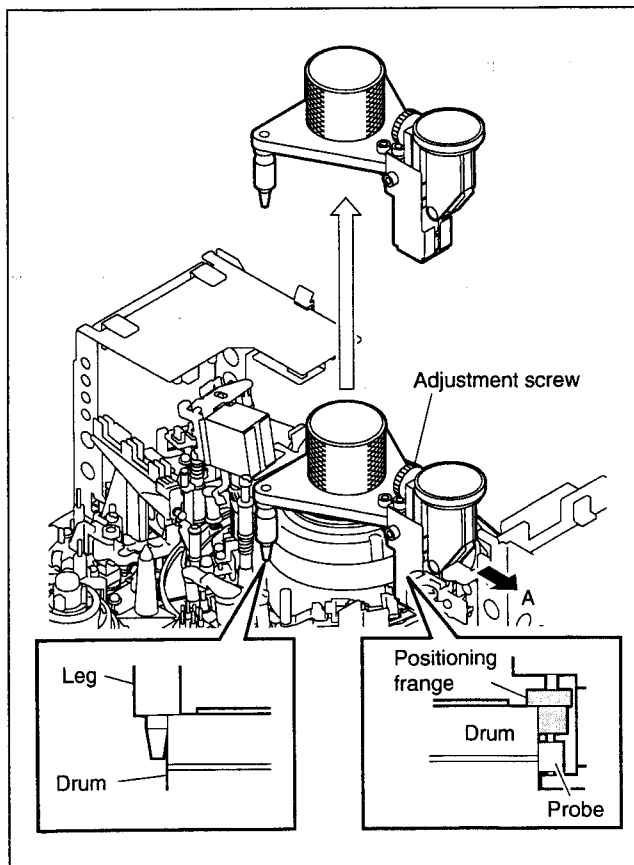

Figure 5. Removal of Head Tip Protrusion Measurement Gauge
3. Lift up the positioning flange from the outer circumference of the drum's upper surface to a few millimeters, and then lift the measurement gauge slowly and remove it while pushing two legs against the outer circumference of the drum's upper surface (applying force slightly to the measurement gauge in the direction indicated by arrow A). (Refer to Figure 5.)